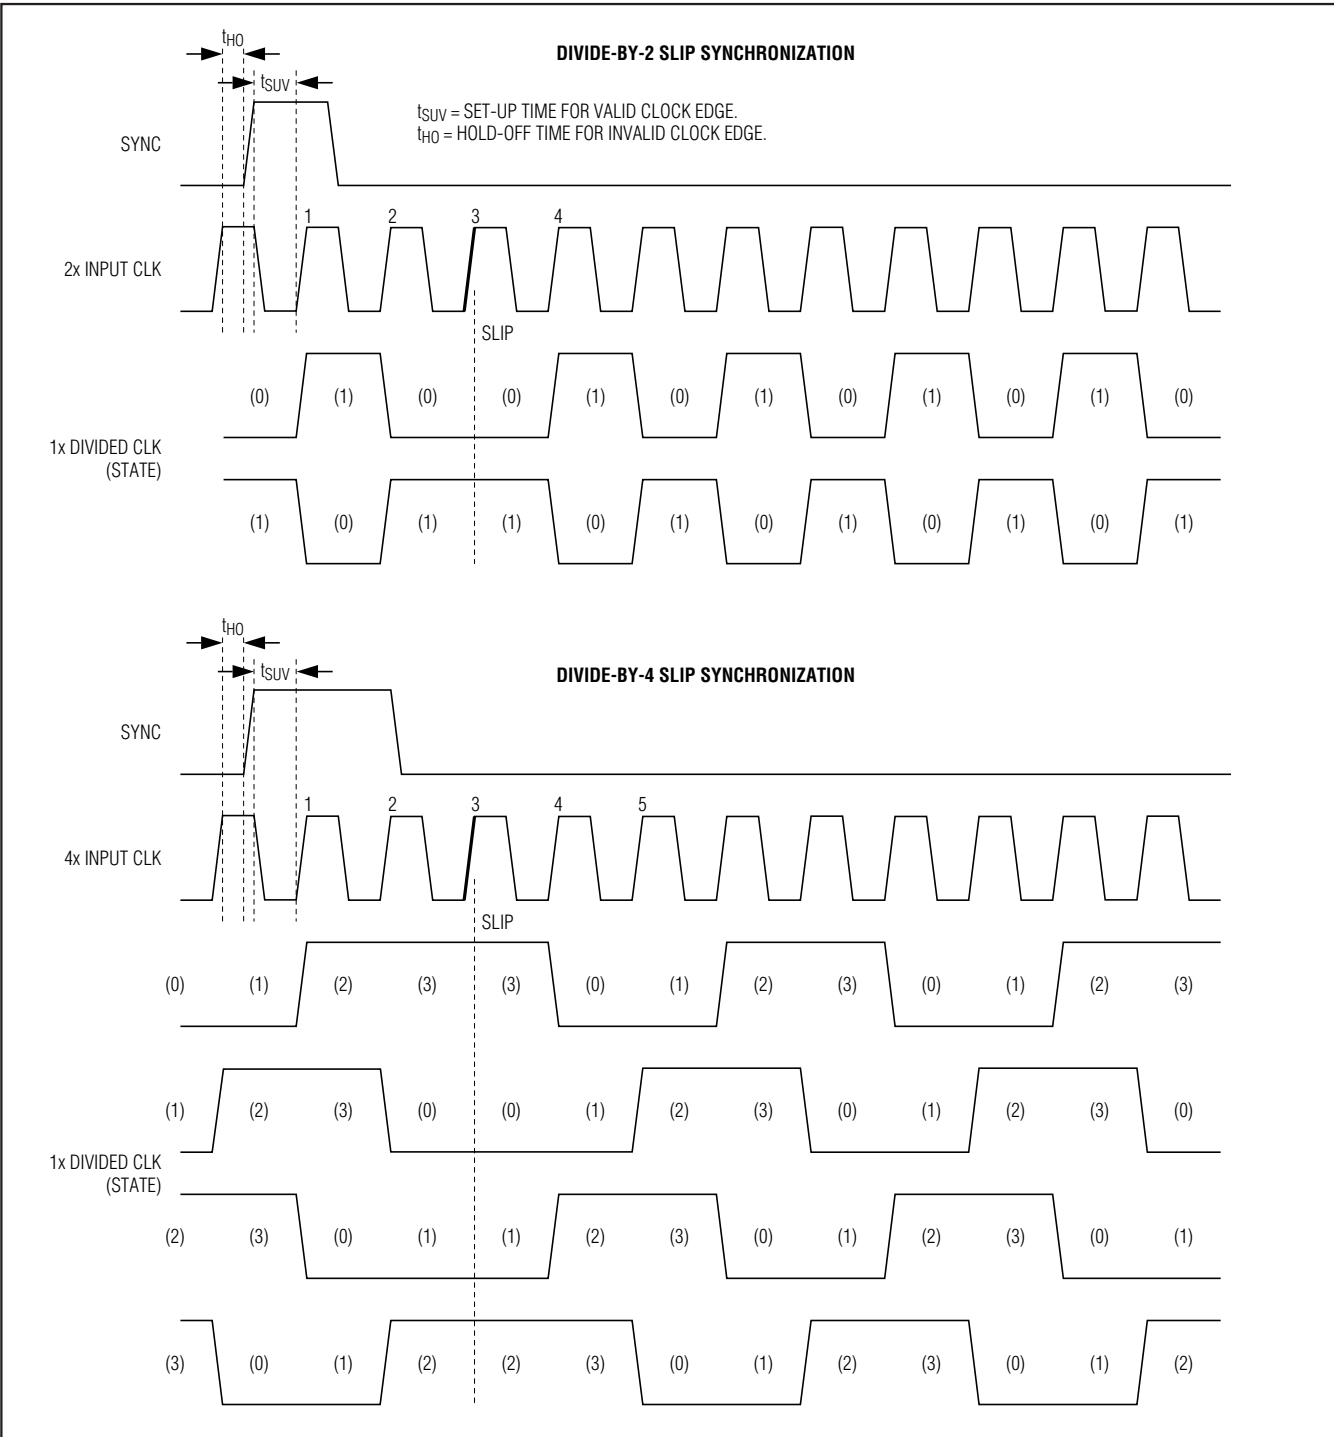

Figure 11. Slip Synchronization Mode
0 = Slip mode (Figure 11) (default)
**Slip Synchronization Mode, SYNC\_MODE = 0 (default):** On the third rising edge of the input clock (CLK) after the rising edge of SYNC (provided set-up and hold times are met), the divided output is forced to skip a state transition (Figure 11).